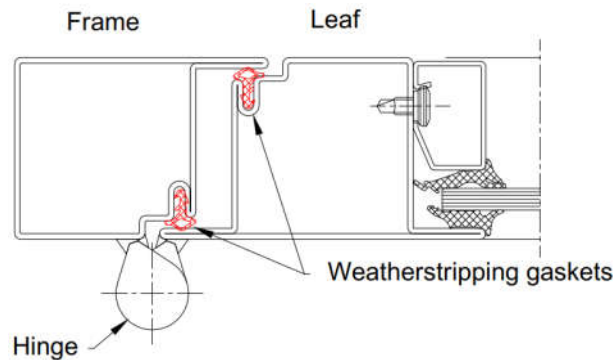

Figure 3 Installation of weatherstripping gaskets
13. During installation, make sure that the weatherstripping gasket is installed in the right direction (Figure 3).